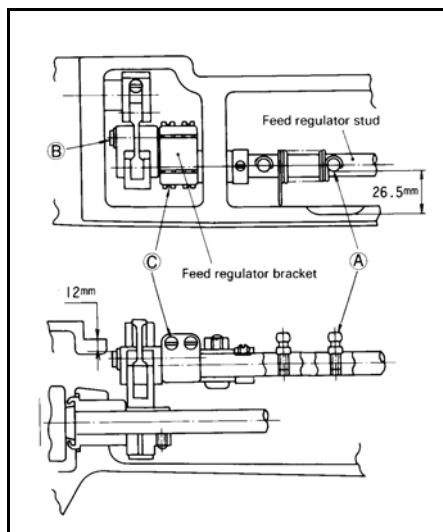
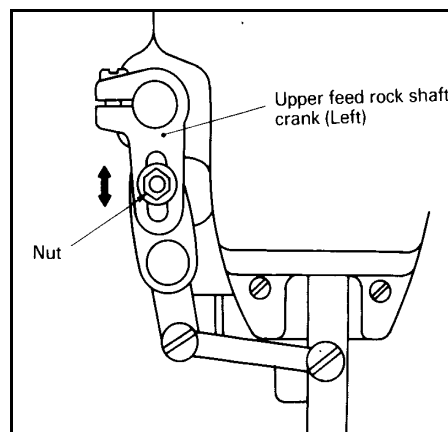

Fig.27
Fig.28
3) Installing the feed regulator bracket (Fig.27):
(1) Set the clearance between special screw “A” located on the regulator stud and the side wall of the machine arm to 26.5mm as Fig.27.
(2) With the feed regulator stud held as explained in step (1) above, adjust the feed regulator bracket. This adjustment should insure a clearance of 12mm between the periphery of pin “B” located on the feed regulator bracket and the top cover mounting face located on the arm. Tighten screw “C”.
4) Feed pitch adjustment of walking foot (Fig.28):